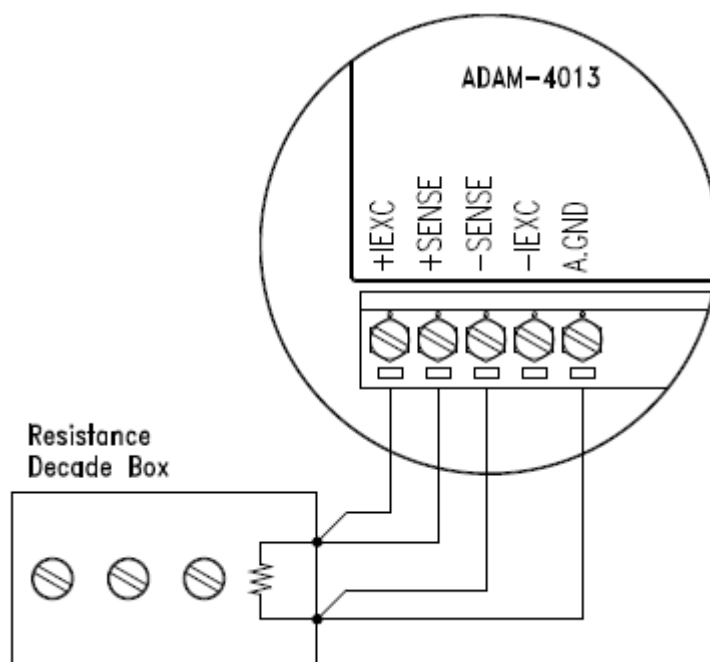

Figure 8.5 Applying calibration resistance
- Apply the reference Span resistance to the screw terminals using a 4-wire connection. Please refer to Figure 8-5 for the correct wiring diagram and Table 8-2 for the right Span calibration resistance).
4. Apply the reference Offset resistance to the terminals of the module. (Please refer to Figure 8.5 for the correct wiring diagram and Table 8.2 for the right Offset calibration resistance.)